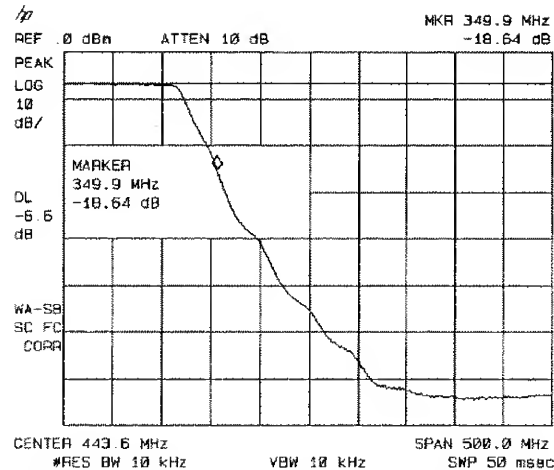

Figure 4-10. Measure the Rejection Range with Delta Markers
9. To measure the rejection of the filter at a given frequency, press **(MKR)**, and enter the frequency. For example, enter 350 MHz. The marker readout displays the rejection of the filter at 350 MHz (see Figure 4-10).